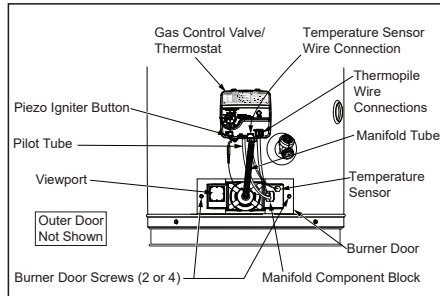

Figure 3: Front view of water heater with outer door removed.
- 4 Remove the manifold screws (1/4" nut driver) securing the manifold door to the combustion chamber (Figure 3).